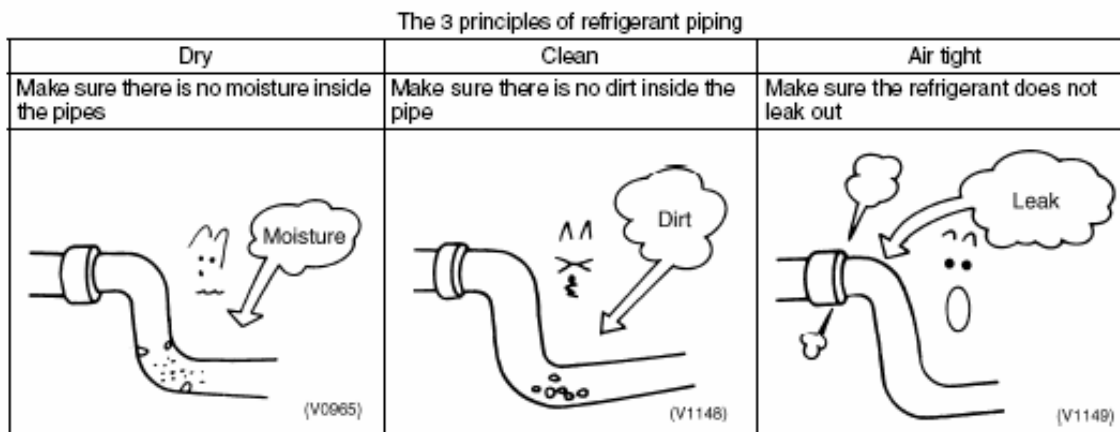

Figure 3-1-1
- ◆ Screw flaring nut with spanner until the spanner sound, which is shown as figure 3-1-1.